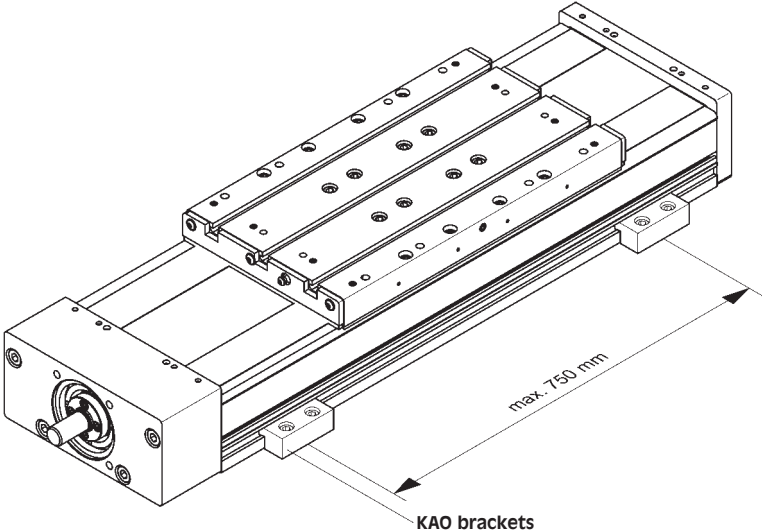

Fig. 3
1. **Fig. 3:** Loosen the relevant mounting bracket.